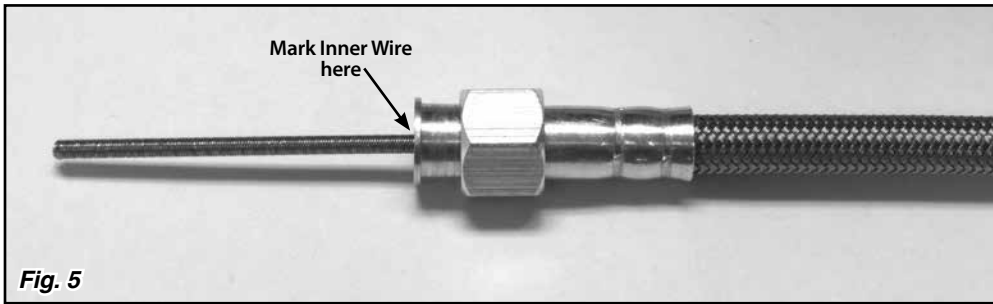

Fig. 5
Step 7: Route the cable housing back up to the speedometer. At the speedometer head, mark the inner wire flush with the end of the speedometer end fitting. **Fig. 5** Remove the inner wire from the cable housing.